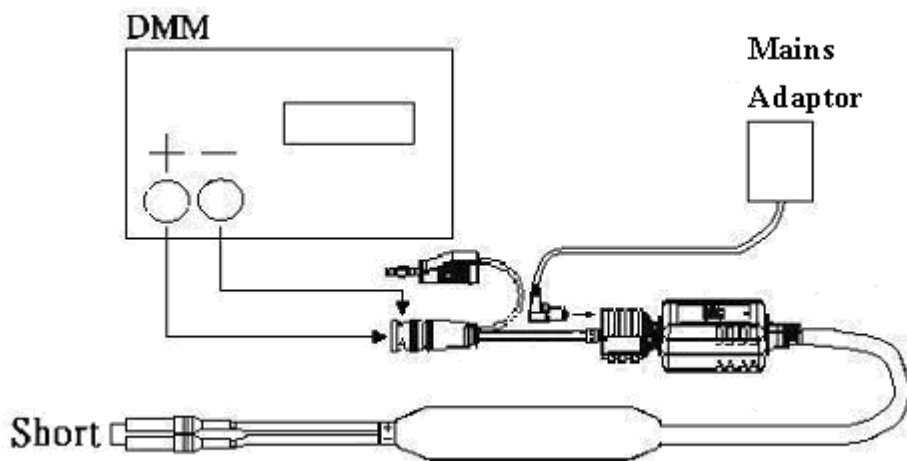

Fig. 4
- C-1. Connect the probe as shown in Fig. 4.